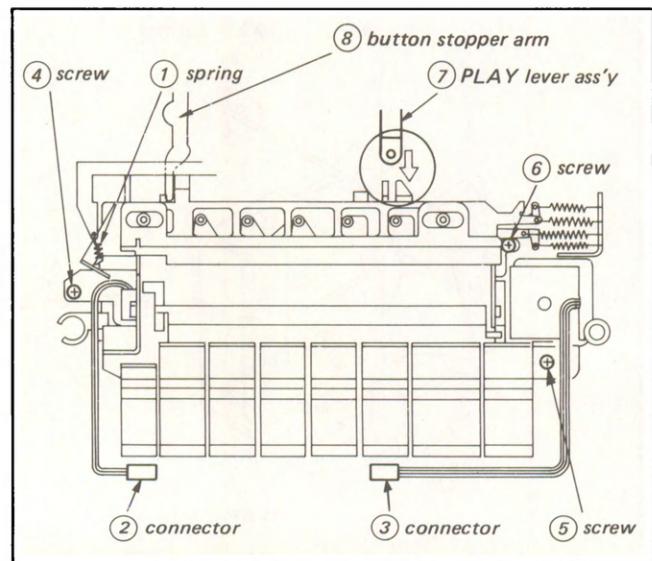
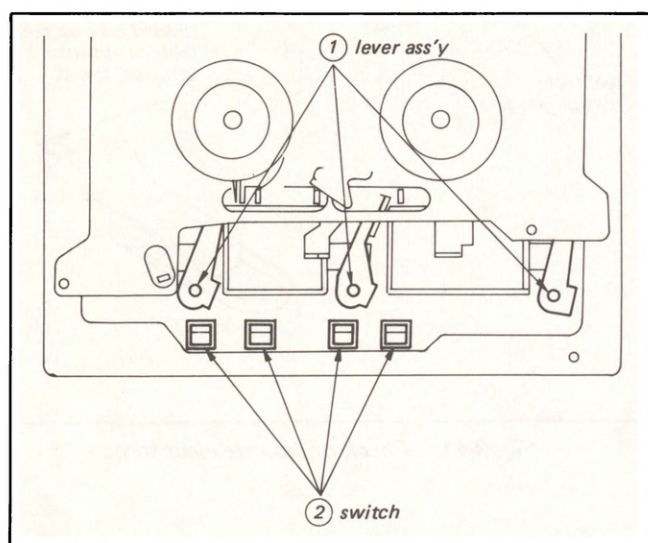

Fig. 3-37.
Fig. 3-38.
- Remove the spring (① in Fig. 3-37) hooked on the FF plate. Write down the tooth on which the spring is hooked before the removal.
- Remove connectors CN6401, 6402 (② & ③ in Fig. 3-37) of the pause microswitch and the stop solenoid from the SW-3 board.
- Remove the three screws (④, ⑤, & ⑥ in Fig. 3-37) mounting the button block and pull the button block upward. Do not catch the counter belt with the button block during the removal.
2. Confirm that the three levers (① in Fig. 3-38) of the plunger unit are slanting fully toward the upper right, viewed from the top.
3. Confirm that the button stopper arm 8 is fully rightwards. (See Fig. 3-37.)
4. Bring down the button block from the topside so that the tips of the four levers (② in Fig. 3-38) on the SW-3 board fit the respective holes on the back side of the button block, position the button block so that the tooth of the slide plate No. 4 gears into the pin (⑦ in Fig. 3-37) on the drive block assembly. Check that there is not any play in the up and down directions and fasten the button block.